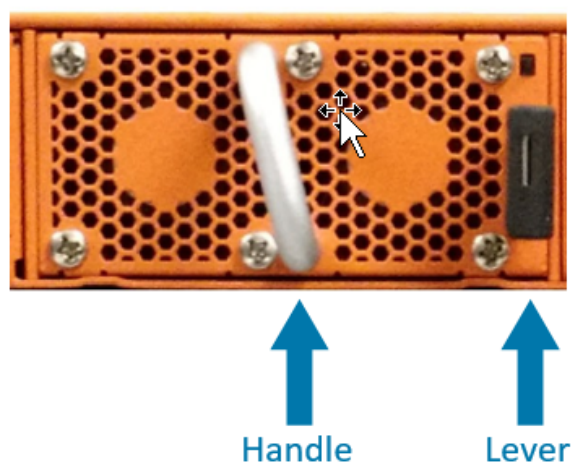

Figure 8 *Replacing a Fan (GigaVUE-TA400E Shown)*
1. Locate lever and handle as shown in Figure 8 Replacing a Fan \(GigaVUE-TA400E Shown\).